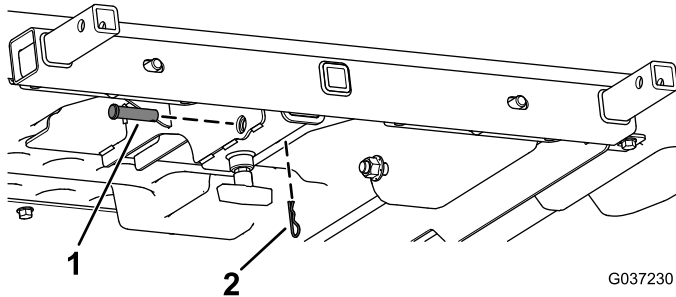

Figure 7
7. Secure the trash-can frame to the receiver tube using the clevis pin and hairpin cotter (Figure 7).